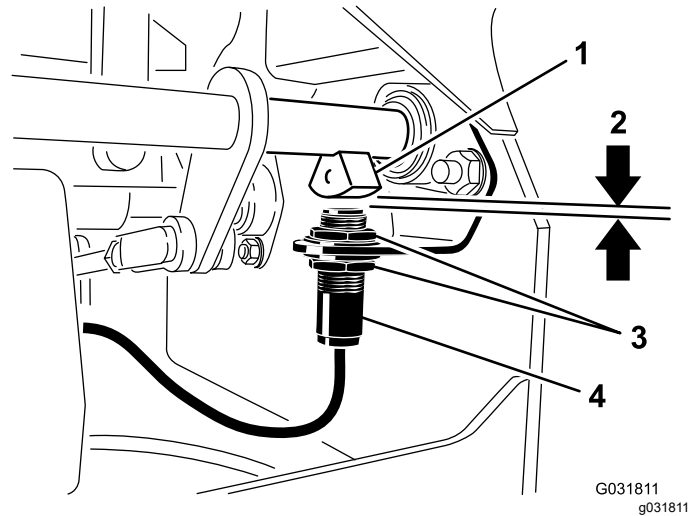

Figure 44
4. Move the switch up or down on the bracket until the distance between the brake-shaft sensor and the switch plunger is 4 mm (5/32 inch) as shown in Figure 44.